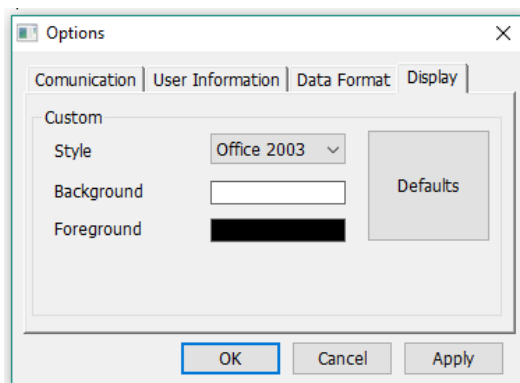

Fig. 2.7-3 Display
- **Display tab:** it is possible to set the software style and the display colors of the screens (Fig.2.7-3);